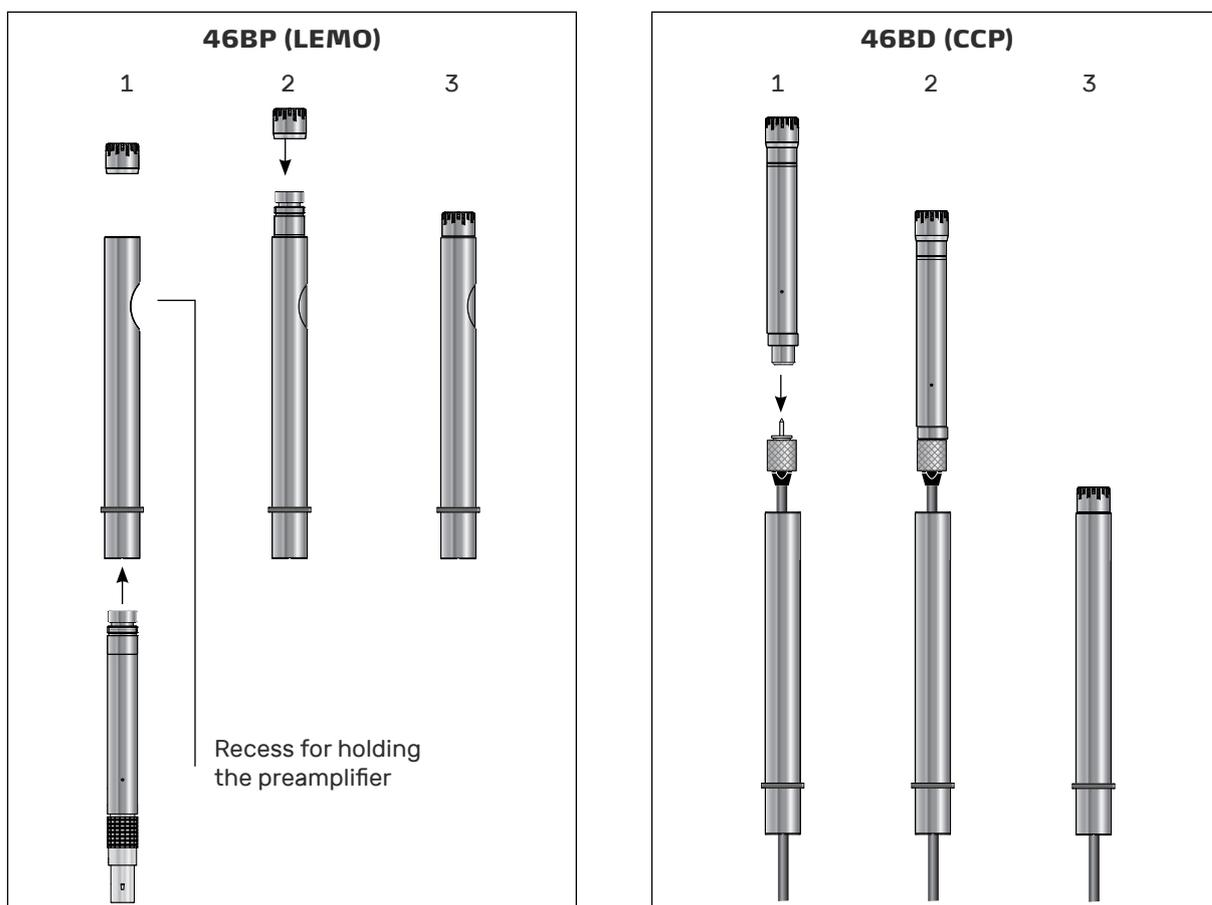

Fig. 54. Mounting the 46BP (LEMO) and the 46BD (CCP) microphone set for mouth equalization.
The microphone set must be inserted from the bottom of the tube, and therefore the grid must be removed. See Fig. 54 (left part). Proceed as follows:
6. Place the tube into the microphone holder's recess. (See Fig. 54).
A CCP microphone set can be inserted into the tube from the top of the tube and therefore there is no need to remove the grid. See Fig. 54 (right part). Proceed as follows:
5. Place the tube into the microphone holder's recess. (See Fig. 54).